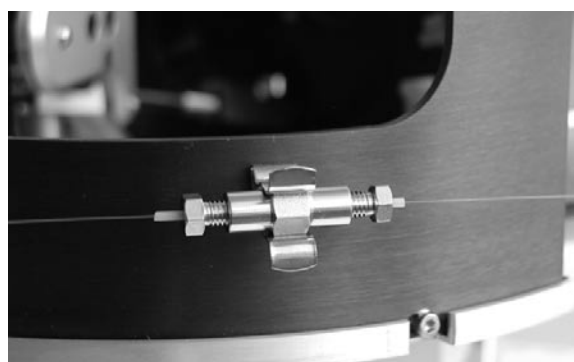

Figure 4.19: Grounding union in place
- 4) Insert the sheathed tubing and fitting into the ground union receptacle. Finger-tighten the fitting by turning clockwise, making sure the tubing is firmly seated into the bottom of the fitting. (Figure 4.19)